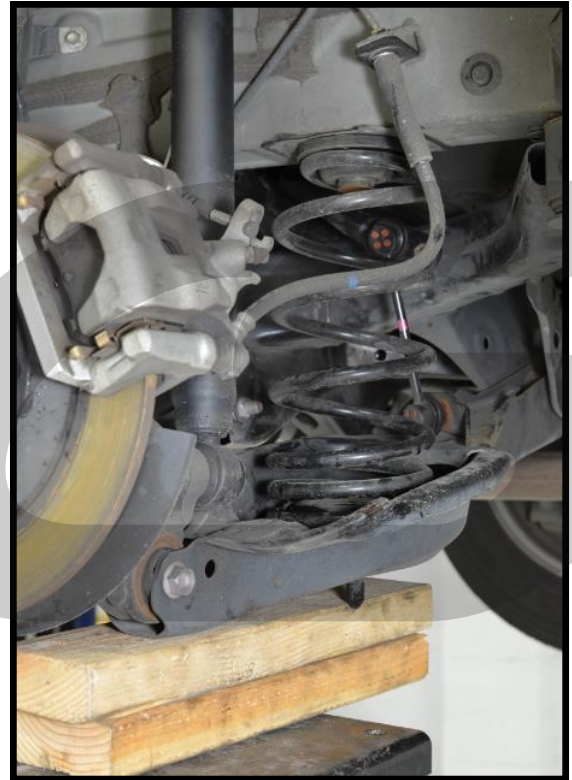

Figure 2a
- b) Place a jack under the rear control arm and make sure the jack is just slightly lifting the control arm (Figure 2a).